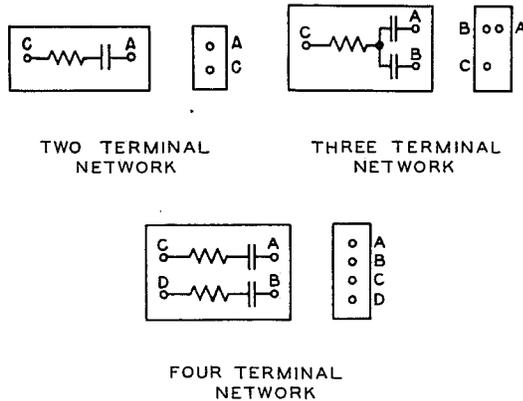

FIG. 61 - TERMINAL ARRANGEMENT OF 176, 177, 178, 179, 181, 182, AND 183 TYPE NETWORKS AS VIEWED FROM TERMINAL SIDE
4.11 The terminals of these networks are lettered as indicated in Fig. 61, as viewed from the terminal end of the network. The C terminal is designated on the apparatus in cases where there are three terminals. The A terminal is located adjacent to the network code marking. The 184 type networks have no terminals and are wired directly to the apparatus.